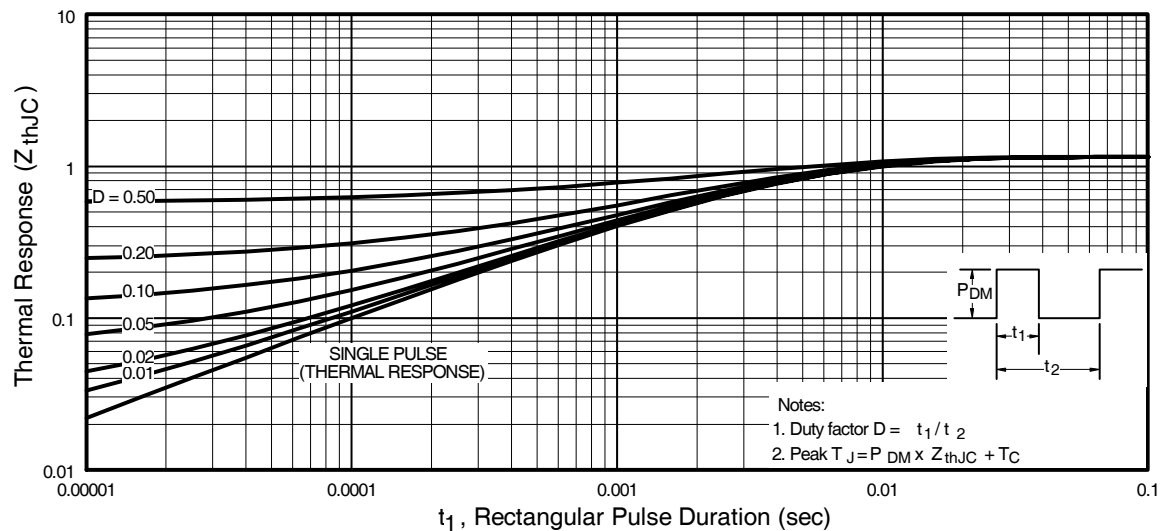

Fig 11. Maximum Effective Transient Thermal Impedance, Junction-to-Case
① Repetitive rating; pulse width limited by max. junction temperature. (See fig. 11)
② Starting $T_J = 25^\circ\text{C}$, $L = 0.37mH$